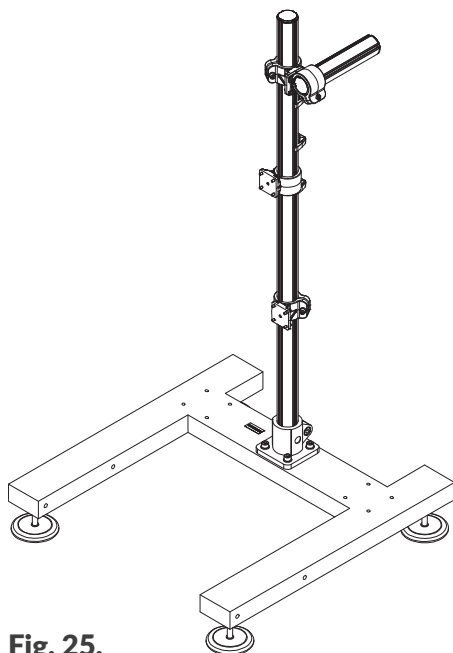
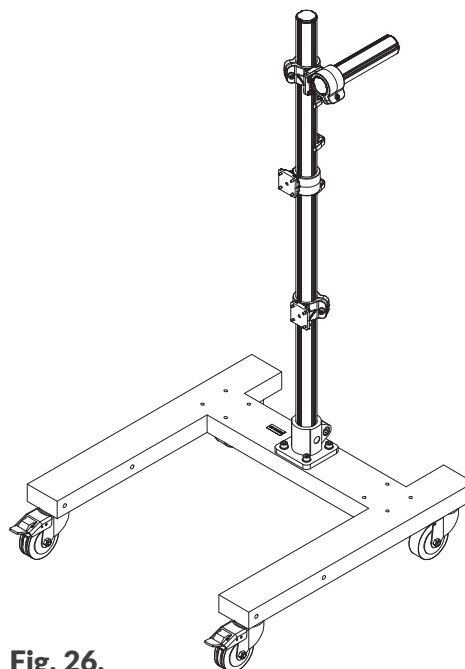

Fig. 25.
Fig. 26.
- a legged stand (Part No. P910214; see Fig. 25),
- a wheel stand (Part No. P910208; see Fig. 26).
The stability of the system where the printer is installed using the stands shown in Fig. 25 and Fig. 26 has been tested in the worst foreseeable scenario. However, due to the fact that the printer can be configured in many ways, it is required that system stability be confirmed each time the installation is complete. The stand with the printer fastened to it must not tilt or overturn.
The use of stands other than the dedicated ones depicted in Fig. 25 and Fig. 26 does not guarantee required stability of the system, which may lead to personal injuries when the stand with the printer on it tilts or overturns.